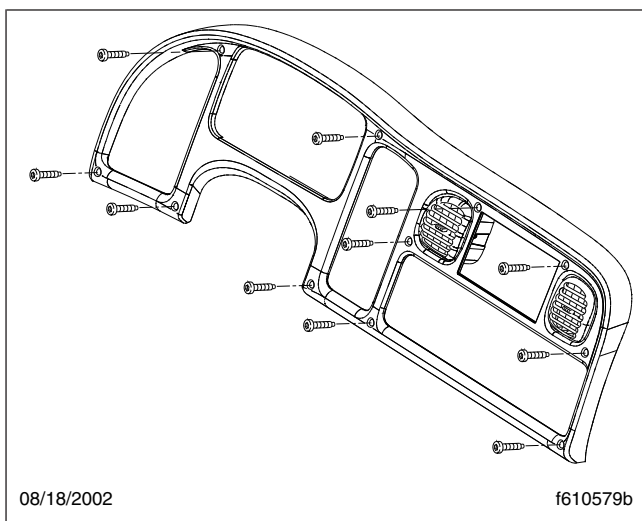

Fig. 2, Dash Trim Piece
- Remove the dash trim piece by removing the eleven screws that secure it. All fasteners for this procedure are 10–16 Torx® capscrews. See Fig. 2.